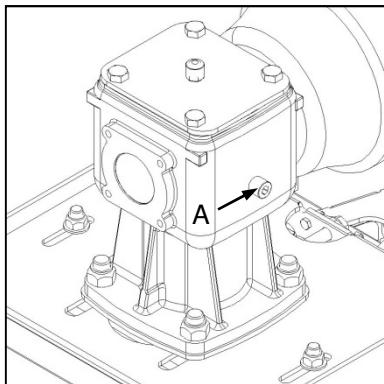

Fig. 8 (Rotagang®)
- ✓** The gearbox is equipped with an oil filling port. Remove the filler plug (Fig. 8-A) and add oil through the filling port so that the oil level coincides with the bottom edge of the hole.
- ✓** Die ratkas het 'n olievulgat. Verwyder die vulprop (Fig. 8-A) en gooi olie by totdat die olievlak gelyk is met die onderste rand van die gat.